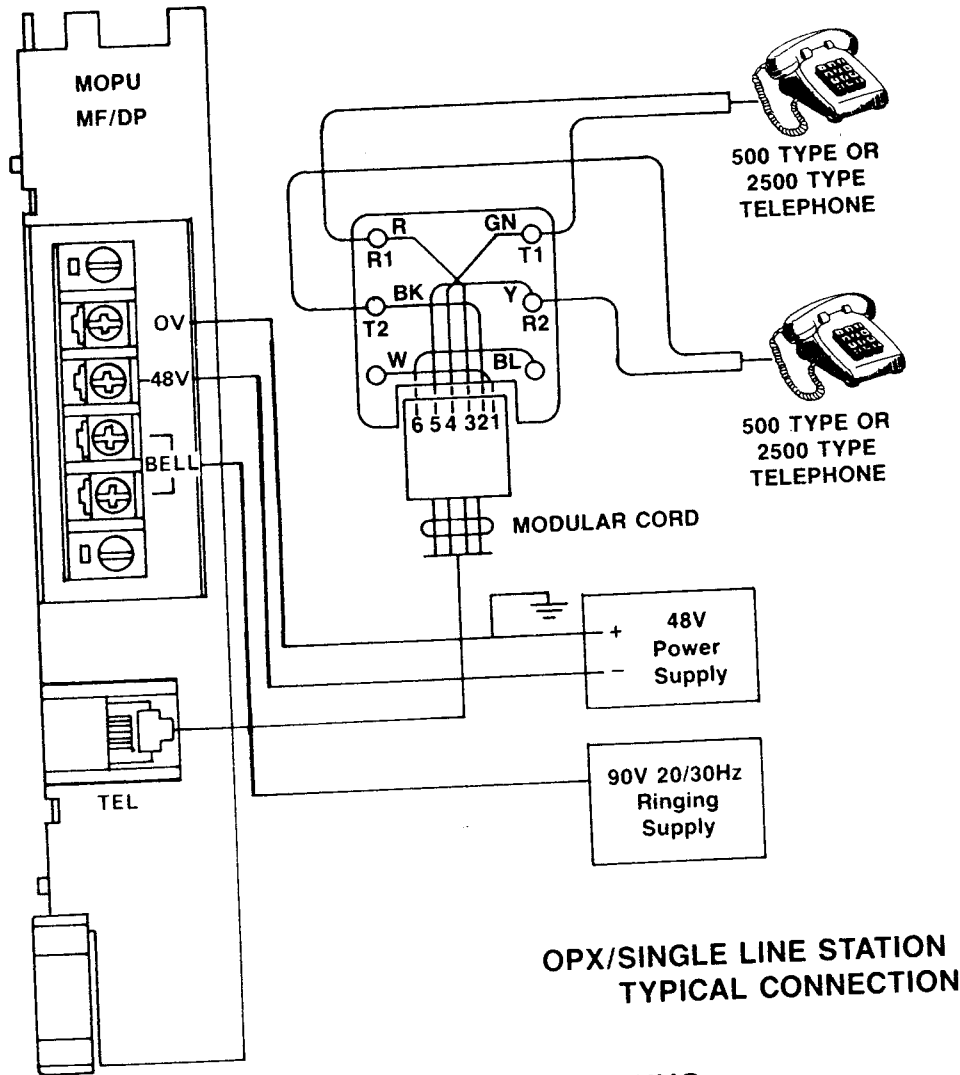

FIGURE 28—MOPU WIRING
08.61 Off premise/conventional single line telephone (OPX) connections are made via a 4-wire modular cord to the front of the MOPU PCB. One cord is required for each MOPU and serves two OPX connections. See Figure 28.